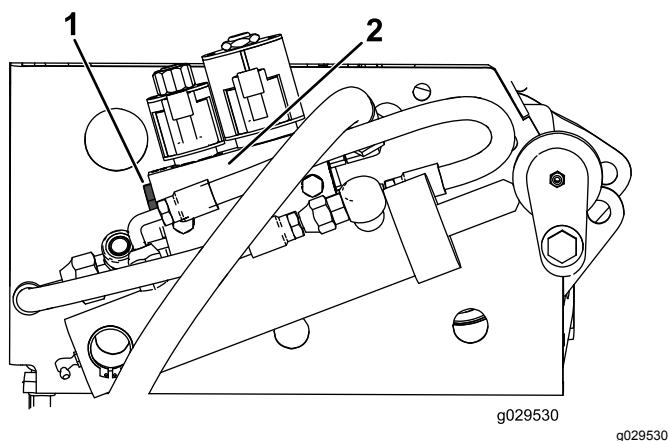

Figure 18
5. On the right frame, locate the deck-lift-valve assembly (Figure 18).
6. Remove the plug from the left side of the valve assembly (Figure 18).